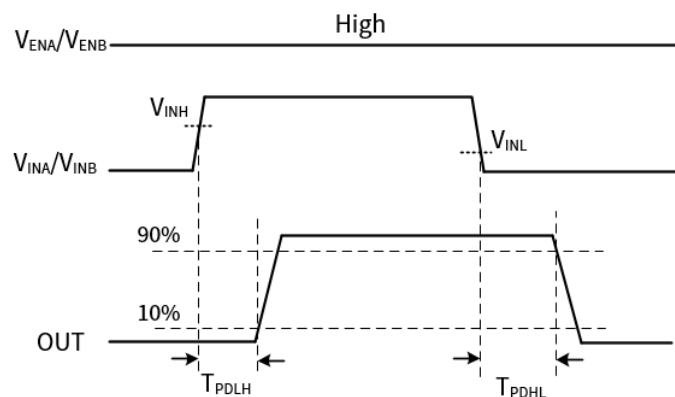
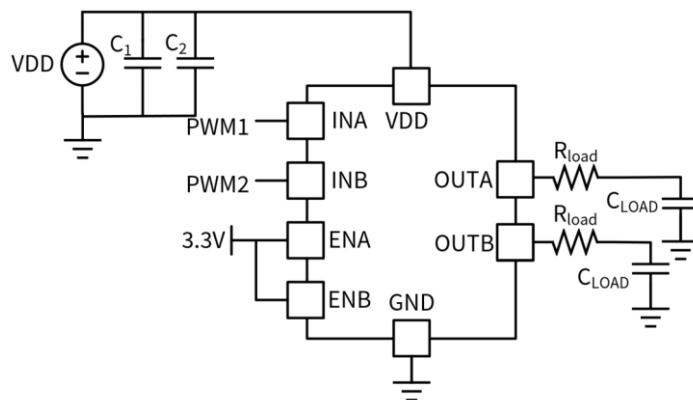

Figure 6.1 Propagation Delay
Figure 6.2 Test circuit diagram
1) See the timing diagrams in Figure 6.1
Figure 6.1 shows the definition of propagation delay. Associated test circuit diagram for specification measurements is shown in Figure 6.2.